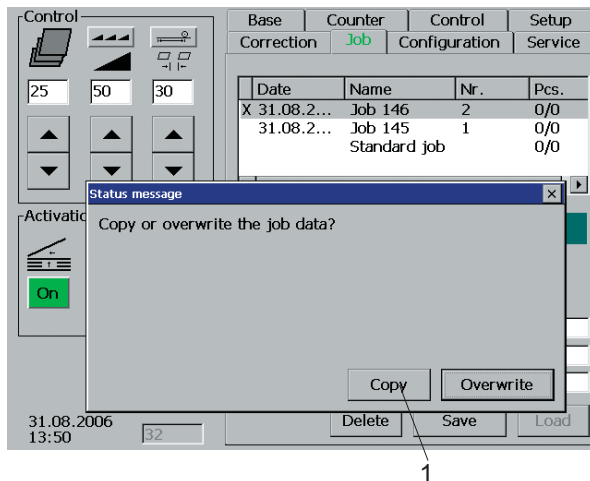

Fig. 74 Copying / Saving
1. Touch the *Copy* key (Fig. 74/1).